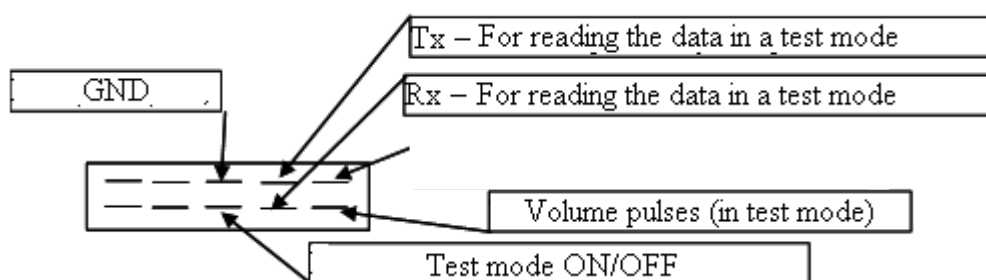

Fig. 6.3. Destination of contacts of connector J
The 2-line,10-pole connector is on the calculator plate between temperature sensors and pulse input/output terminals (see fig.A1, Annex A). Destination of contacts of connector J is presented in fig. 6.3.
The pulse outputs are active when the corresponding contacts of connector (J) are open (see Fig. 6.3)